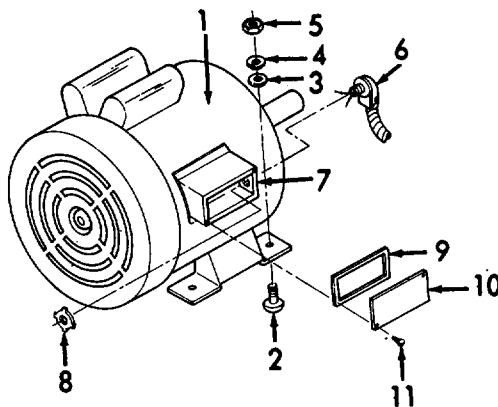

Figure 3-32. *Electric Motor, Installation.*
f. *Installation.* (Refer to Figure 3-32).